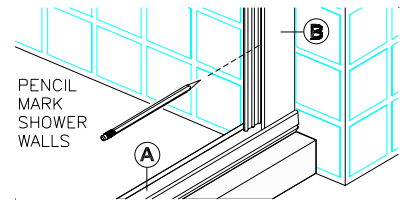
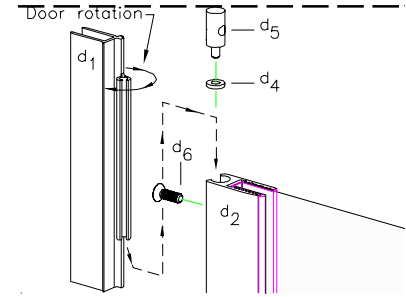
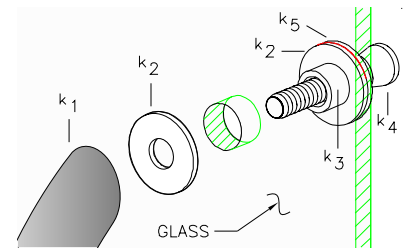

figure 2
figure 3
figure 4
3. Place Wall Jambs (B) on to ends of Sill (A) and up against shower walls as shown in figure 2. Plumb the Jambs, then pencil mark their installation holes locations on shower walls (3 per jamb). Remove Wall Jambs. Use a 3/16" drill bit (designed to drill through material you are working with) to drill 1-1/4" deep installation holes in locations previously marked. Insert Plastic Screw Anchors (I) into holes.
4. Reposition Wall Jambs (B) as before and secure Jambs to walls using the six(6) 1-1/2" Installation Screws (H) provided (3 per jamb).
5. Decide from which side your Door Assembly (D) is to hinge (left or right, your choice). Install Glazing Vinyl (d7) onto hinge side of glass as shown in the exploded view. Begin glazing at top of glass edge and work down.
7. Insert the Hinge Post (d1) into the Hinge Stile (d2) as shown in figure 3. Take a minute to check the door rotation (*is it the correct rotation for your configuration*)? If it is not, then make it so. When satisfied, proceed.
8. Insert Hinge Washer (d4) and Hinge Bushing (d5) into Hinge Stile (d2) as shown in figure 3. Rotate Hinge Post (d1) out of the way and secure the bushing with one(1) Door Assembly Screw (d6) as shown in figure. Repeat step for opposite end.
10. Insert Strike Post (C) into appropriate Wall Jamb. Measure from bottom of Strike Post (where it sits on Sill) to the bottom of the Door Pull (d9). Trim bottom Seal Vinyl (F) to a 1/4" more than measurement obtained. Insert trimmed Seal Vinyl into Strike Post as indicated in exploded view, sheet - 1. Next insert Magnet Strip (G) into Strike Post. Finally insert remaining Vinyl Seal (F) and trim top excess as required. Snip Seal Vinyl as shown on sheet - 1, Detail '1 - A'.
11. Adjust Door Assembly and Strike Post along curb as required. Note: Bottom of Door Assembly must always remain parallel to Sill in order for door to operate properly. When satisfied with door operation, secure Hinge Post and Strike Post to the Wall Jambs using 638PHPT Adjustment Screws (J), see exploded view - sheet 1.
12. If Jamb Caps (L) were purchased, install the End Caps (L) at both the hinge side and the strike side of the door as shown in exploded view - sheet 1. Trim the End Caps to required lengths before installing.
13. Install oval pull Handles (K) by backing out the two Set Screws (k6) and pulling the Handles (k1) apart. Unscrew the two Screw Posts (k4) to disassemble bushings and washers. Slip a metal Washer (k5), a plastic Washer (k2) and Sleeve Bushing (k3) onto the Screw Post (k4) as shown in Figure 4. Insert it into the glass hole as shown and attach the outside oval pull Handle, (do not forget to attach plastic washer). Hand tighten the screw and repeat step for bottom portion. When done . . . carefully tighten down assembly with a screw driver. Take inside Handle (see explode view sheet 1) and insert it onto the Screw Post heads as shown. Finish oval pull Handle installation by tightening down the two set screws.